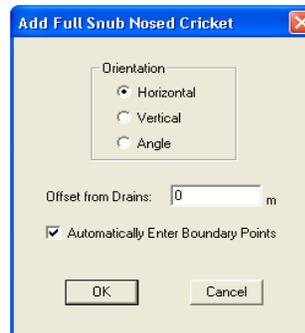

Figure 3–21 The Add Full Snub Nosed Cricket dialogue box.
2. In the Orientation area, click Horizontal, and in the Offset from Drains box, type 0.2, as shown in Figure 3–21. **Automatically Enter Boundary Points** must be checked